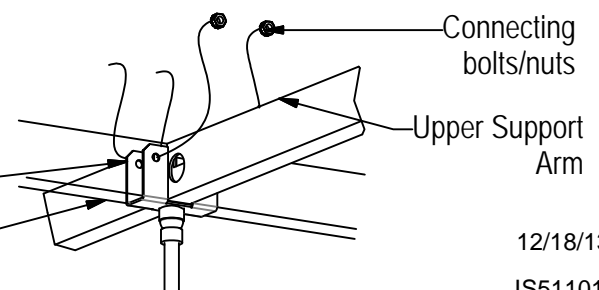

Figure 1
STEP 10: Attach "lower support arm" to "upper support arm" with two bolts and two nuts through connecting bracket. See figure 1